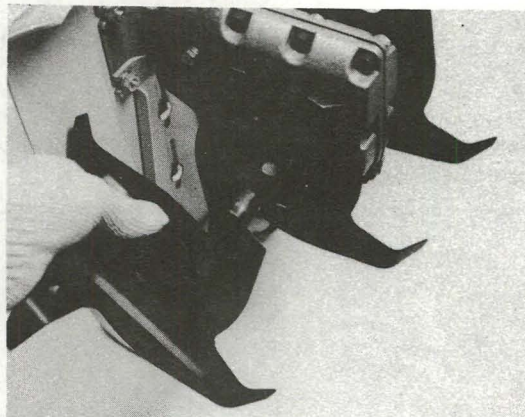

Fig. 26
5. Replace the tines and felt cushions by reversing steps 2 & 3 (Fig. 26).